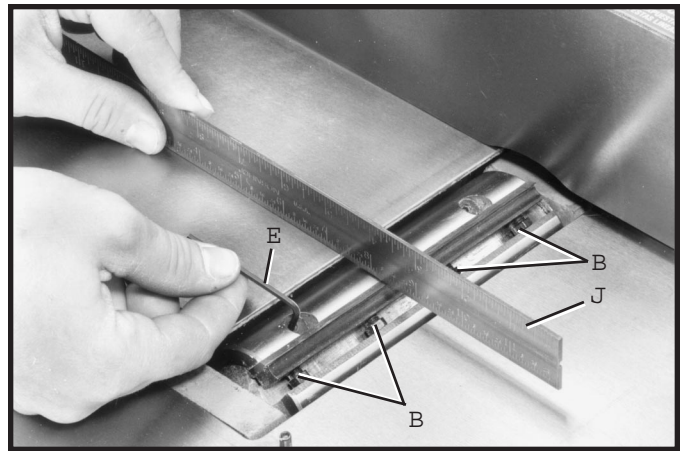

Fig. 53
9. Lower the infeed table and place a straight edge (J) Fig. 53, on the outfeed table extending over the cutterhead as shown.
10. Rotate the cutterhead by hand until the knife is at its highest point at each end of the cutterhead. To raise the knife, use wrench (E) Fig. 53, and turn raising screw clockwise until the knife just touches the straight edge (J) on each end and center of the cutterhead when the knife is at its highest point. When you are certain the knife is adjusted properly, tighten the four locking screws (B) by turning them counterclockwise.